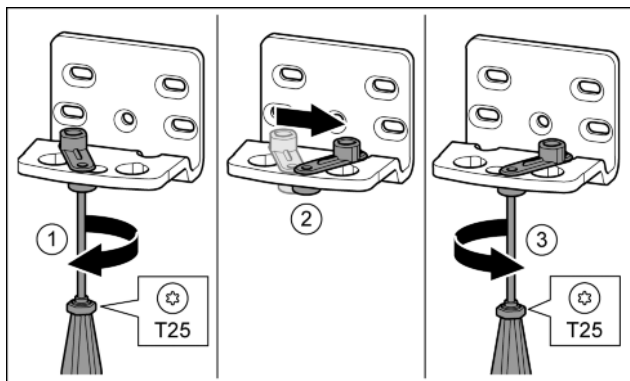

Fig. 12
- ▶ Loosen screw using a T25 screwdriver. Fig. 12 (1)
- ▶ Lift the door closure aid and turn it 90° to the right in the hole. Fig. 12 (2)
- ▶ Tighten screw using a T25 screwdriver. Fig. 12 (3)